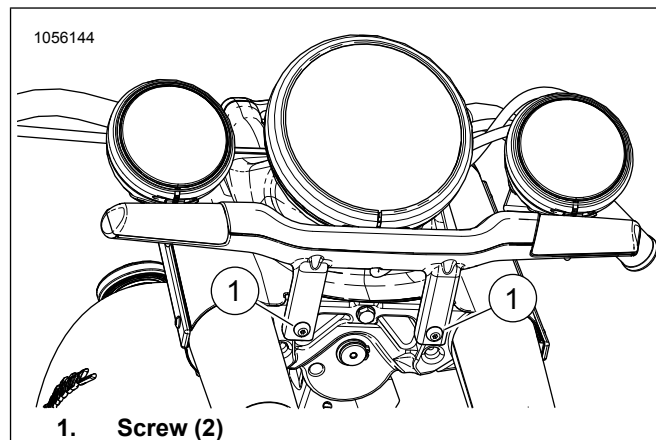

Figure 2. Lightbar Assembly
1. Loosen screw from original equipment (OE) headlamp trim ring and remove ring. Set mounting ring aside. Save screw and nut for re-installation. Loosening or removal of lightbar may be required to access headlamp screw for models. See Figure 2 to remove lightbar, loosen or remove screws (1).
6. See Figure 2. For models that required loosening or removal of lightbar, clean threads of screws and chase holes. Apply threadlocker to threads of screws (1).